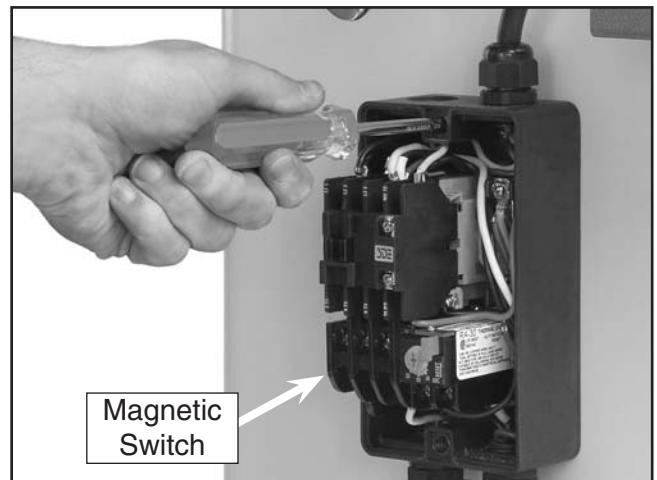

Figure 12. Attaching magnetic switch to stand.
3. Attach the magnetic switch to the jointer stand, as shown in **Figure 12**, using the Phillips head screws, flat washers, and hex nuts.